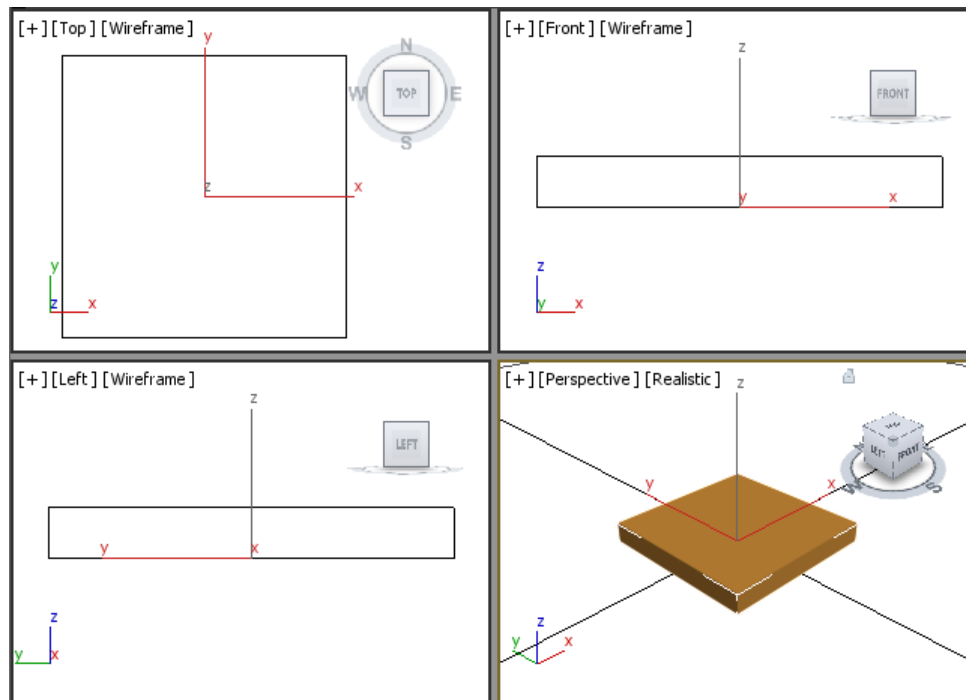

Figure 5-24 The base extruded in all viewports
- In the **Parameters** rollout, set the value **0.4** in the **Amount** spinner; *base* is extruded, as shown in Figure 5-24.